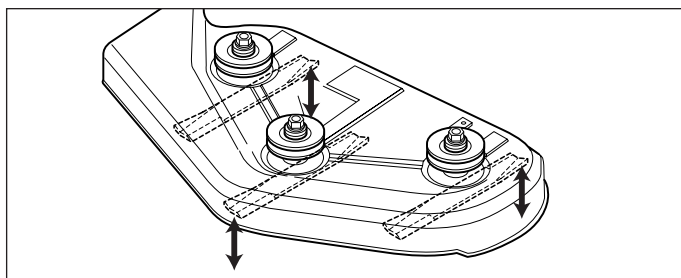

Figure 31. Orient Blades Front-to-Back
6. Arrange the blades so they face front-to-back (Figure 31).